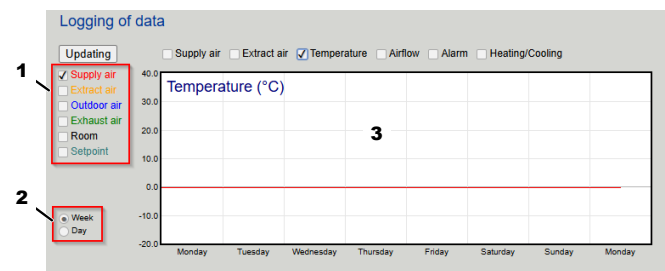

Fig. 38: Selecting measured values
3. ▶ Click on the selection field for the daily or weekly display ( Fig. 38 /2).
4. ▶ Click on the selection field to display the desired measured values ( Fig. 38 /1).
5. ▶ Click on the diagram ( Fig. 38 /3) to enlarge the display.